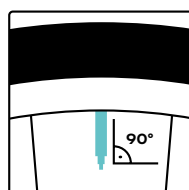

Fig. 6
- Carefully insert the tube and align the valve vertically (**Fig. 6**).